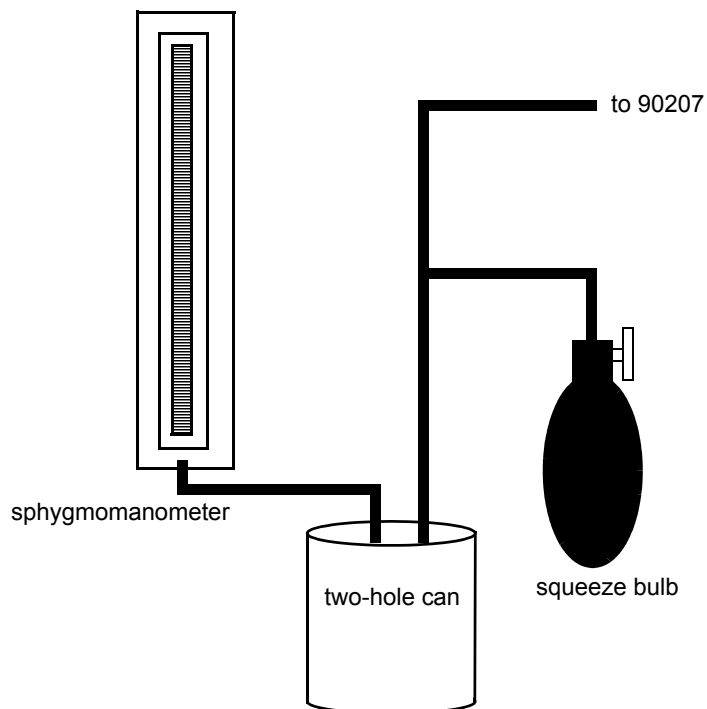

Figure 4-10: Sphygmomanometer test configuration
- 5 Connect the pressure bulb manometer and standard two-hole can to the input (refer to *Figure 4-10* on page 4-16). Clamp the hose to the bleed valve using the hemostats.